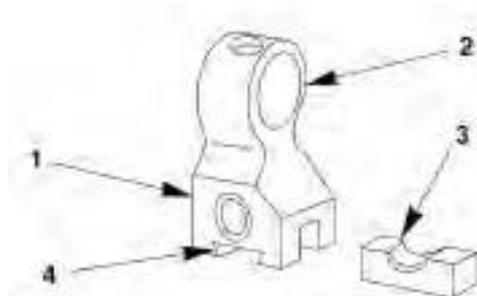

Figure 7. Inspection of Front Sight Base.
1. Visually inspect front sight base (Figure 7, Item 1) in hooded area (Figure 7, Item 2) for bends and in dovetailed area (Figure 7, Item 4) for damage. If damaged replace front sight base (Figure 7, Item 1).
2. Visually inspect key (Figure 7, Item 3) for burrs. Replace if damage or missing.